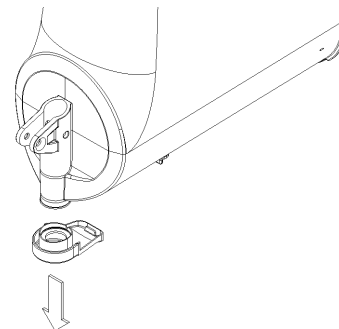

figure 15
- 5** Remove the flow restrictor from the container (see figure 15).